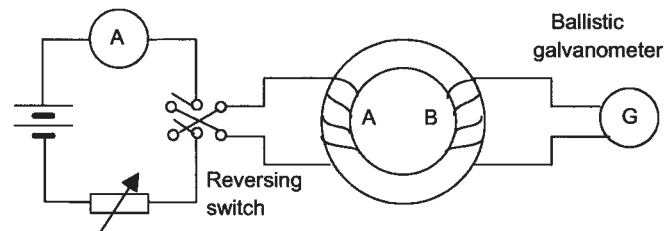

Figure 15.20 *Determination of the hysteresis loop*
- 1 Determine the hysteresis loop for a material. Figure 15.20 shows the traditional circuit that is used to measure the magnetic flux in a ring. The magnetising field is provided by a current through coil A. Another coil B is connected to a ballistic galvanometer; this is a special form of moving coil instrument with virtually no damping. The magnetising current is adjusted to the desired value and then the reversing switch is used to reverse the direction of the current and